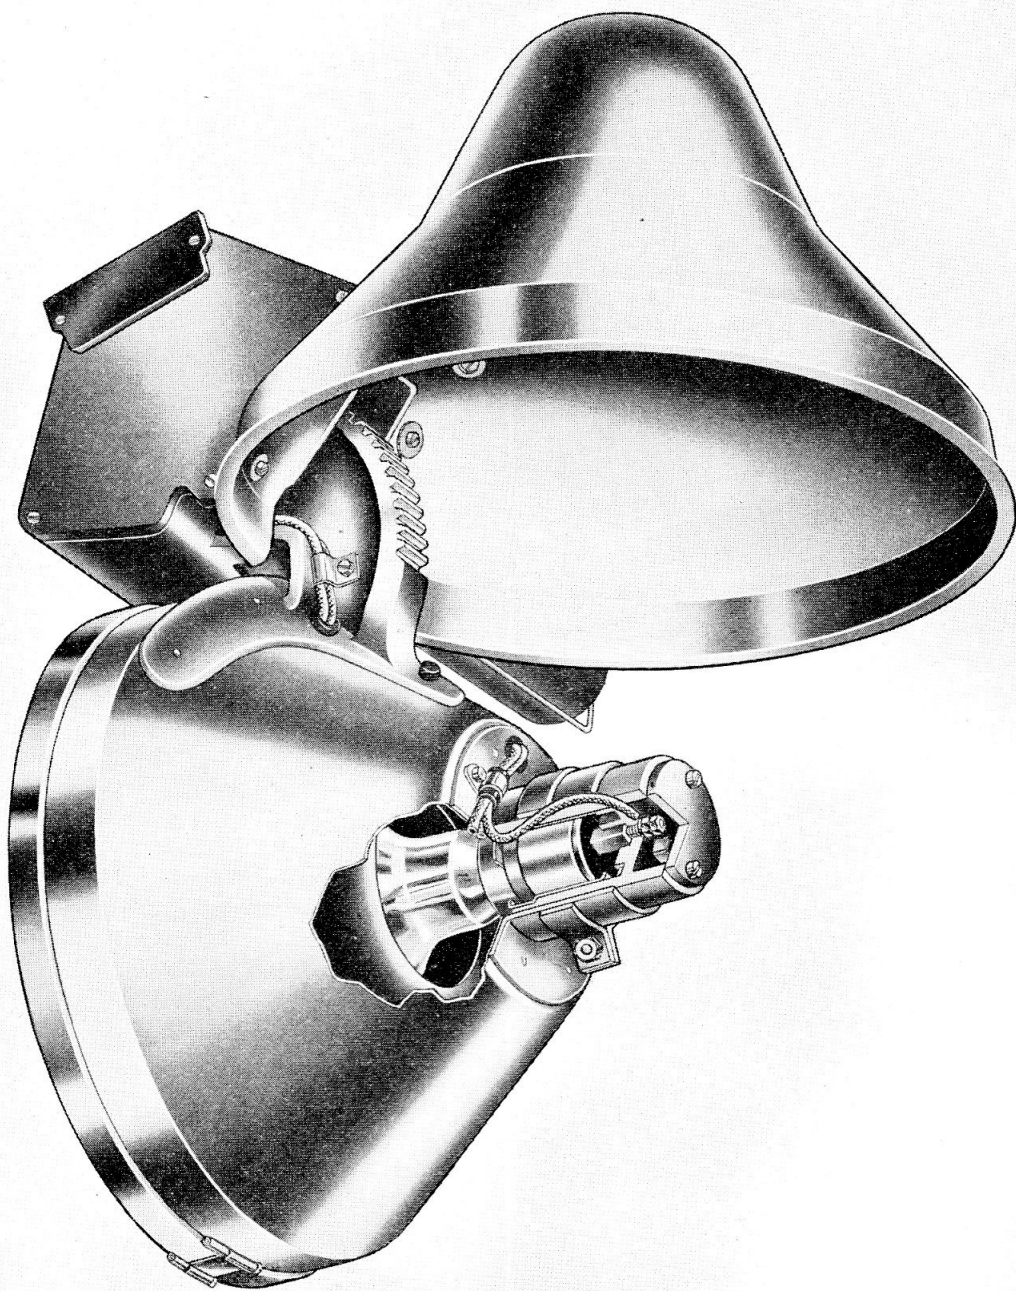

Fig. 1. General view (part section)
2. The lamp (*fig. 1*) is constructed in two major units, namely :—